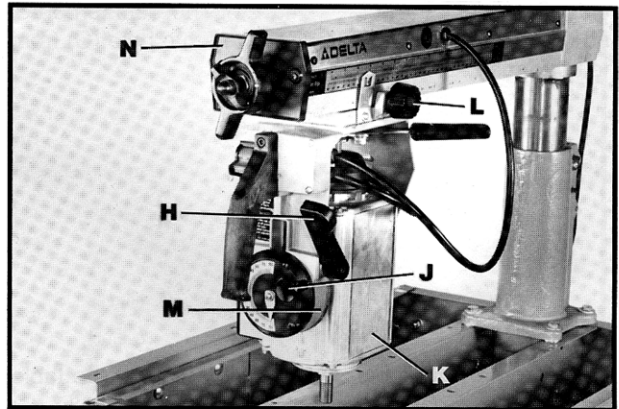

Fig. 21
5. Push bevel clamp lever (H) Fig. 21, forward. Pull out bevel index knob (J) and rotate motor (K) to the vertical position as shown until bevel index engages. Push downward on bevel clamp lever (H).
6. Loosen cuttinghead clamp knob (L) Fig. 21, and slide cuttinghead assembly (M) to the front of track arm (N).